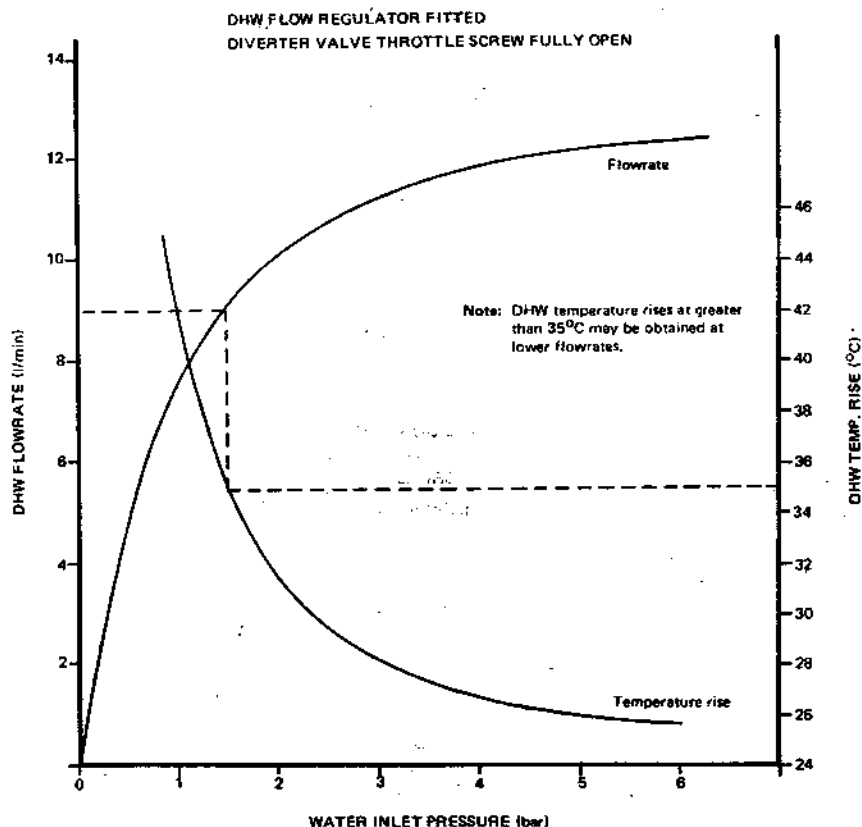

Fig. 5
- Note: If the water supply pressure is low, a temperature rise greater than 35°C will result at the taps -refer to Fig. 5.